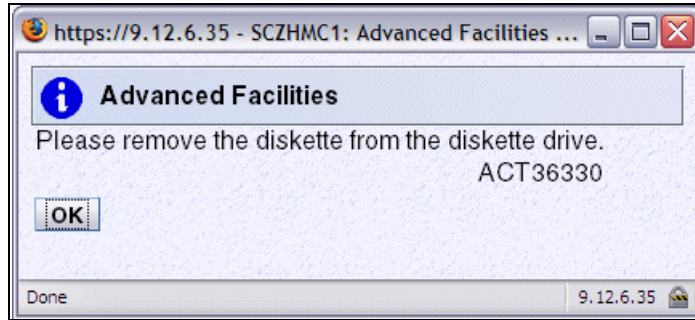

Figure 4-34 HMC - OSA Advanced Facilities (Remove diskette)
11. Remove the diskette from the drive, then click **OK** (Figure 4-34 on page 162).